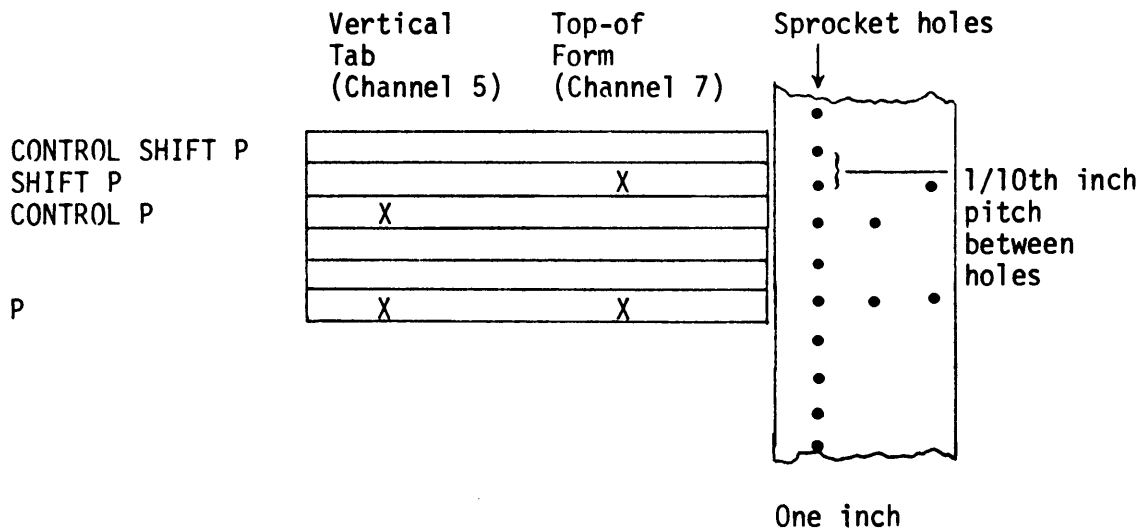

Figure 5-1 Vertical Format Tape
4. For a Vertical Tab hole (in channel 5), press and hold CONTROL key, and then press P. For a Vertical Tab and Top-of-Form holes (in channels 5 and 7), press P key alone. To generate sprocket holes (one space at a time), press and hold CONTROL and SHIFT, and then press P for each hole (see Figure 5-1).